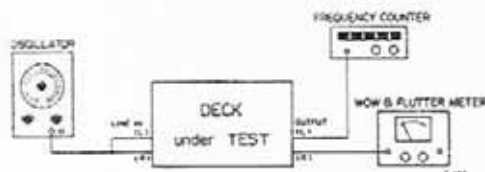

Fig. 7-5 Test Connections for Wow/Flutter and Tape Speed Test
The tape speed should be measured using TEAC flutter free tape, Model YTT-2004 (15 ips), YTT-2003 (7-1/2 ips) and YTT-2002 (3-3/4 ips). These tapes contain a highly accurate 3,000 Hz tone. Connect a digital frequency counter to either line OUTPUT jack. See Fig. 7-5. The indicated frequency should be 3,000 Hz (± 30 Hz) for all speeds during playback of the tape.
1. Connect Test equipment to the deck as shown Fig. 7-5. (Except oscillator).
1. Connect Test equipment to the deck as shown Fig. 7-5.